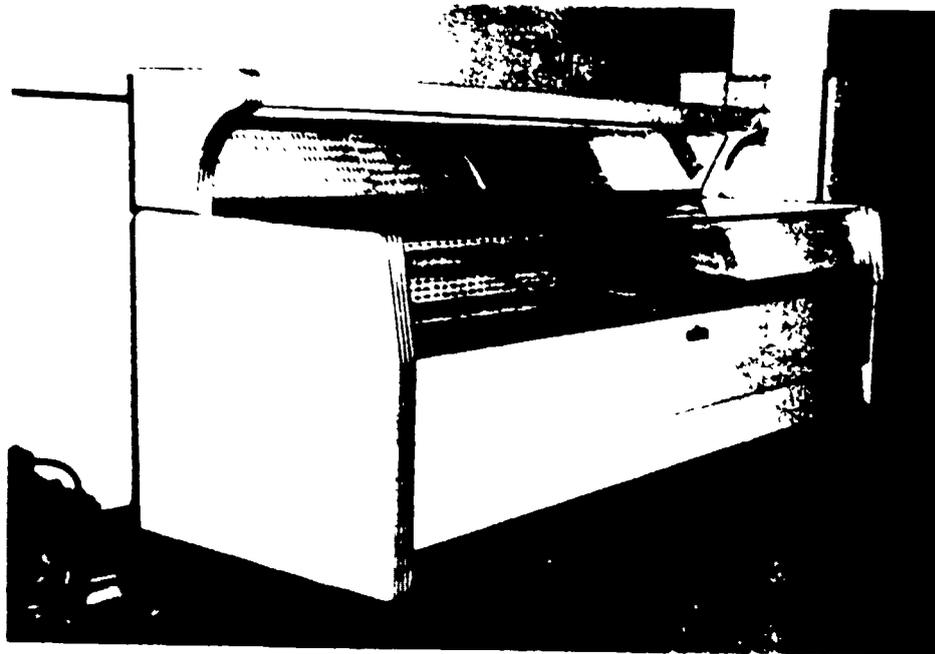

Figure 11. Open Type
**Open Type** The open-type display case is utilized for easy self-service of meat, vegetables, frozen foods, and dairy products. They may be designed for service from one side only, as illustrated in figure 11, or they may be the island type without the top for service from all four sides. The open-type display case may be visualized as a tank or bin full of cold air. The cold air is heavier than the surrounding air so it stays in the bin in much the same way as the water stays in an open tank.